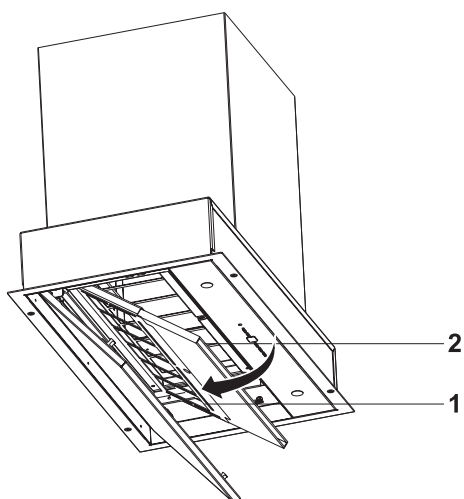

Fig. 8
6. ▶ Open the carbon filter cover downwards (Fig. 8)
Pull and remove the carbon filter (Fig. 8).